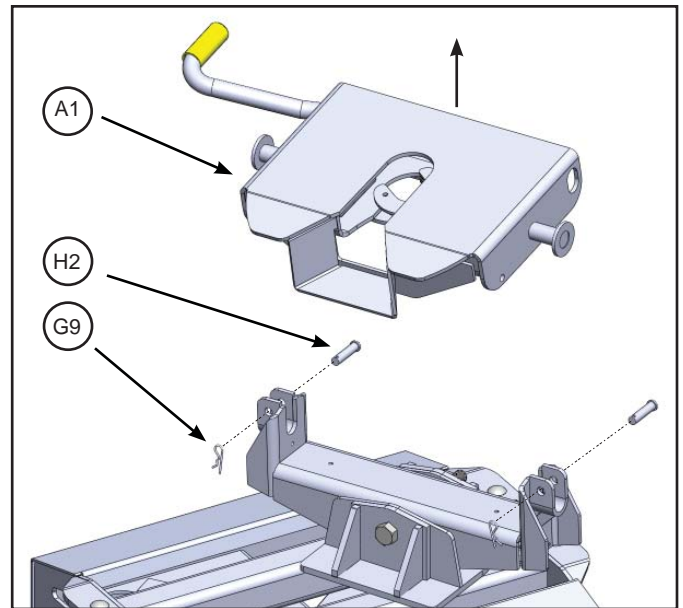

Figure 1
1. Remove the top plate {A1} of the hitch by pulling the clip {G9} and pin {H2} from either side of the plate (see Figure 1). Set parts aside for reassembly in later steps.